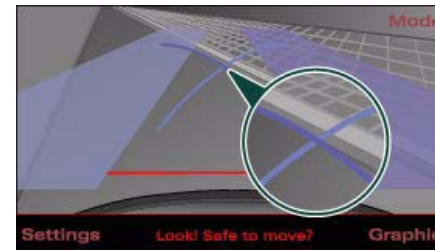

Fig. 163 MMI display: Blue marking touches edge of pavement
- Reverse into the parking space. If you are *not* parking next to obstacles ⇒ page 150 the dark blue marking ④ should touch the kerb ⇒ page 146, fig. 163. Stop your vehicle.
The light blue ③ and dark blue ④ curves show you when to turn the steering wheel in the other direction, i.e. when the curve touches the kerb. ⇒ page 146, fig. 163.
fig. 163. You can use the control buttons to switch between the Rear View camera and Graphic display at any time as desired. The settings selected on the sound system or MMI remain stored.
You also have to steer in the opposite direction a lot earlier. This means that the blue curve ⇒ page 146, fig. 163 must not touch the kerb - make sure there is a sufficient distance to the kerb ⇒ ⚠.